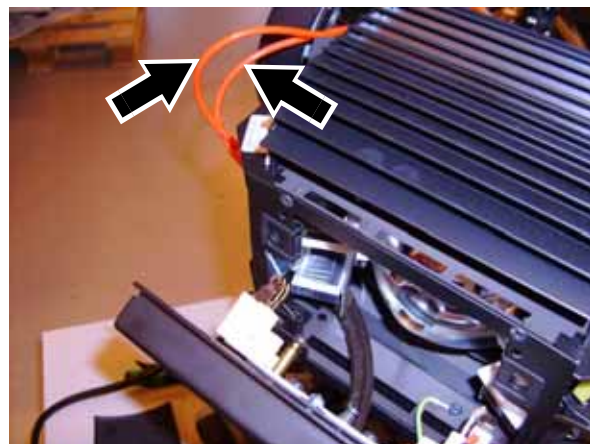

Figure 60
65. See Figure 60. Pull the lamp leads back through the fixture towards the ignitor leaving only enough slack as is necessary to open the rear lamp housing cover.